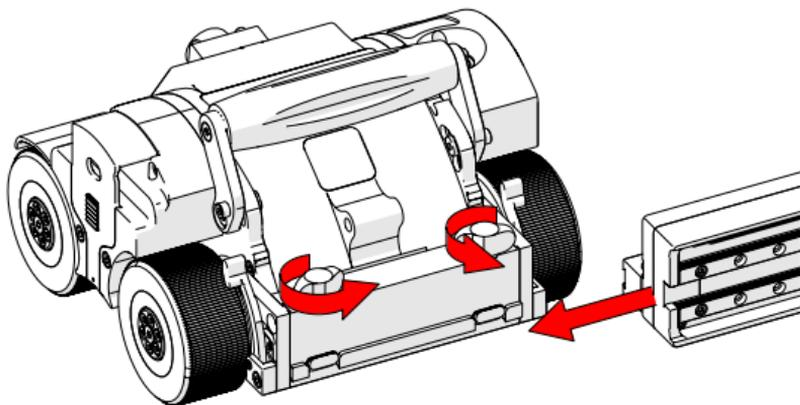

Fig. 47 - Slide onto one swivel mount
1. Loosen the two black wing knobs, and slide the raster arm's mounting rail onto the dovetail jaws of the crawler (Fig. 47).